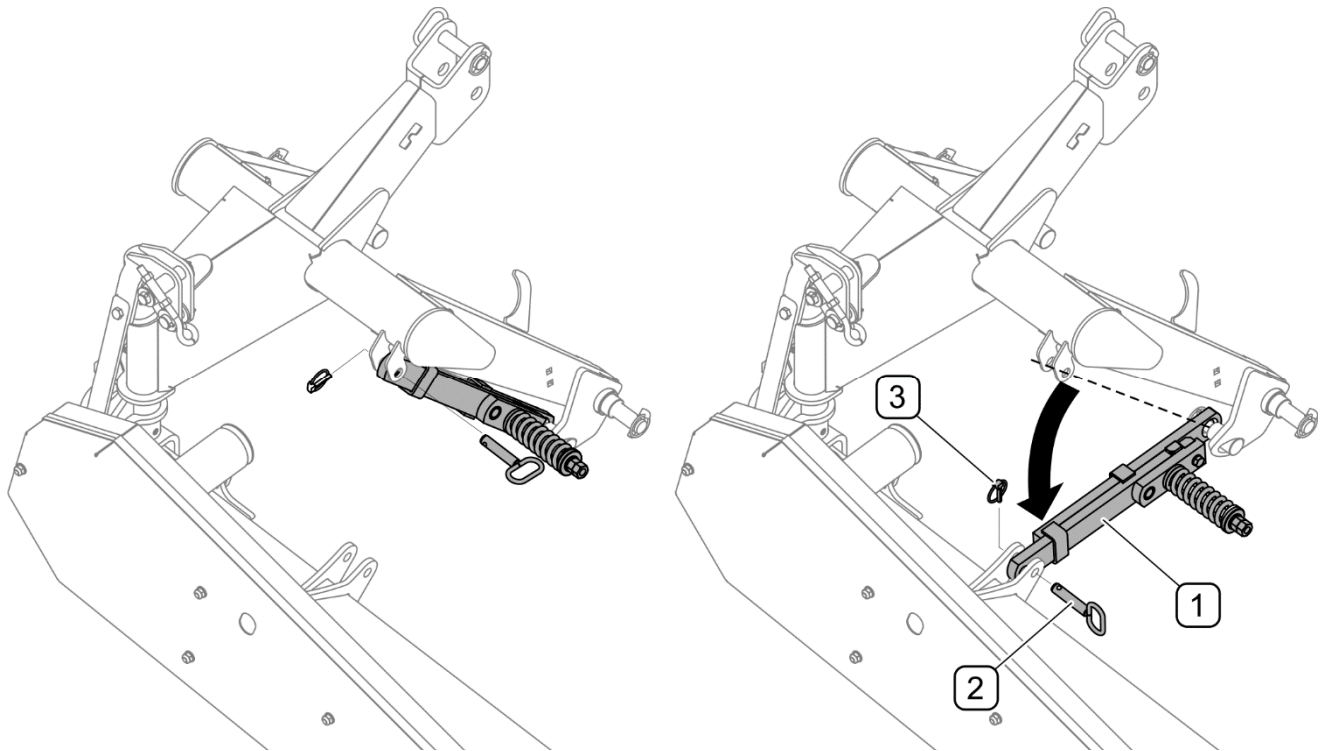

FIGURE 4.7 Assembly of safety device
(1) - safety device; (2) - pin; (3) - cotter pin
To lock lifting arm in working position, assemble safety device (FIGURE 4.7). To this end, remove cotter pin (3) and, holding safety device (1), remove pin (2). Lower safety device (1) and attach to lifting arm using pin (2) with cotter pin (3).